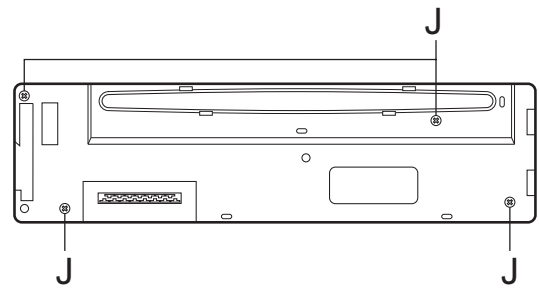

Fig.10
2.1.8 Removing the front board (See Figs.10 to 12)
(See Figs.10 and 11)